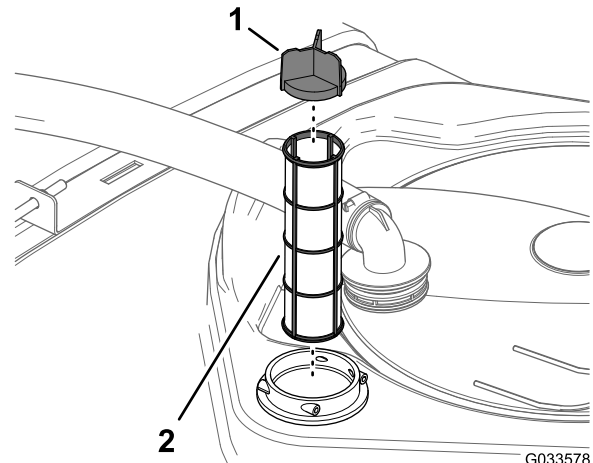

Figure 22
4. Pull the suction strainer out of the filter housing in the tank (Figure 22).